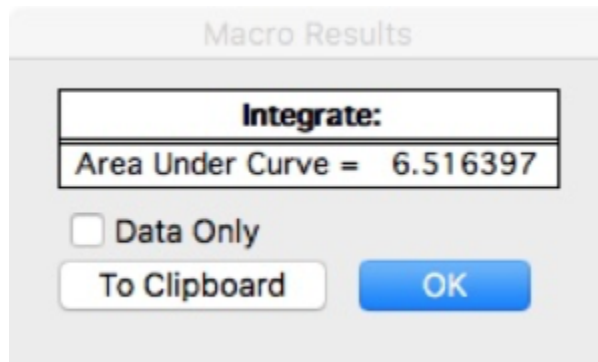

Figure 72- Integrate Area Results window.
- d. The value reported is equal to the response length (**Figure 72**). These values should range from 7 to 9 cm depending on the SQUID axis.